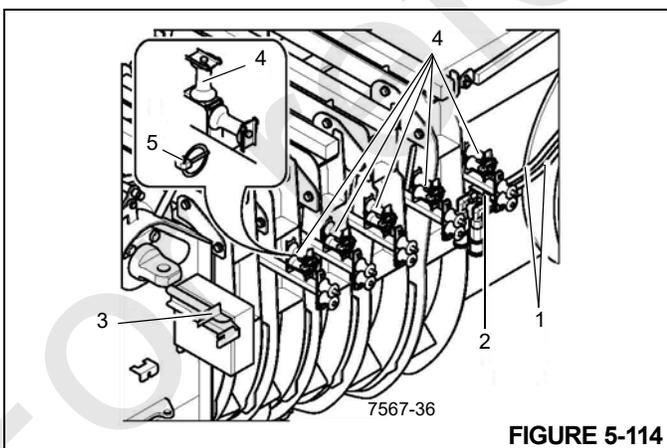

FIGURE 5-114
1. Loosen the hinged pins (5), (Figure 5-114) and fold up the guide sheaves (4).
2. Detach the strain relief from the holder (3) and attach it to the holder (2).
3. Fold down the guide sheaves (4) and secure them with the hinged pins (5).